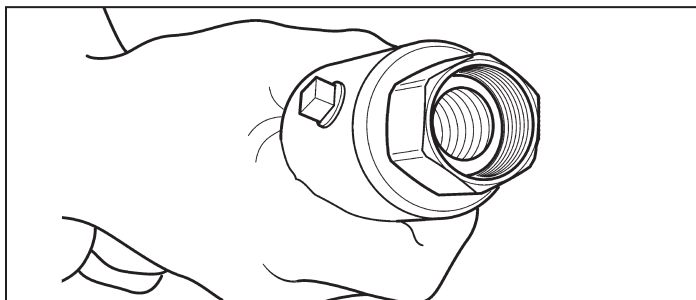

Figure: 4-59
- Hold the black coupling and slide the fitting up to capture the split rings into the nut. Make sure that the split rings slip all the way to the base of the internal threads. Your assembly is now ready to be attached to the adapter on the equipment (Figure 4-59).